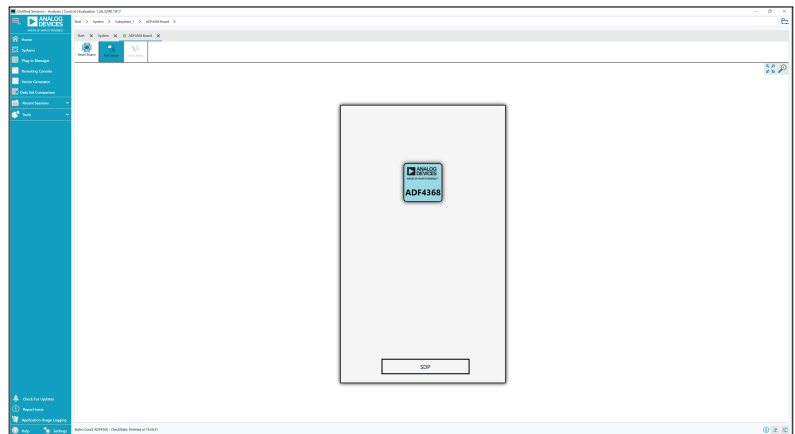
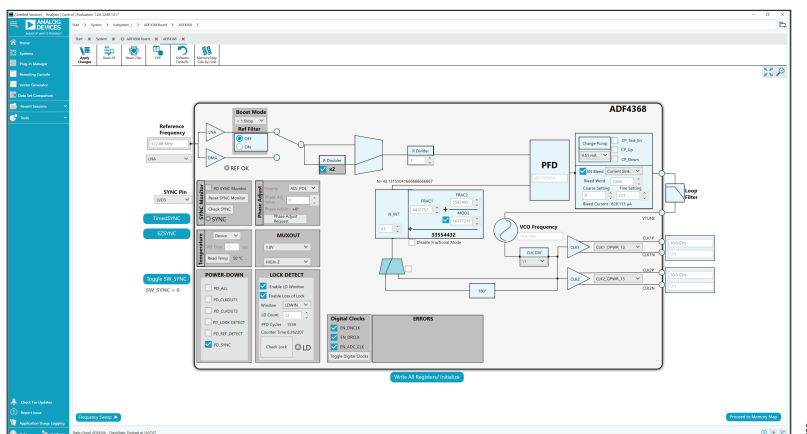

Figure 4. ACE Board Page, Device Selection
Figure 5. Main Page
All components necessary for local oscillator (LO) generation are installed on the EV-ADF4368SD1Z. The EV-ADF4368SD1Z is shipped with an 122.88 MHz crystal oscillator (XO), the ADF4368 synthesizer with an integrated VCO, and a 650 kHz loop filter (charge pump current (I_{CP}) = 11.1 mA) at 10.6 GHz. When the EV-ADF4368SD1Z is powered-up and connected to the ACE software, clicking the **Write All Registers/ Initialize** button, shown in Figure 5, provides a 10.6 GHz output clock on both clock output channels.
2. Double click the **ADF4368 Board** button, and the tab shown in Figure 4 appears.
3. Double click the **ADF4368** button that appears in Figure 4 to open the main control window shown in Figure 5.
The main controls are available in the high level register map, shown in Figure 5. To modify registers, perform the following steps:
Run the software and follow the steps shown in the Evaluation Board Software section to open the main page as shown in Figure 5.